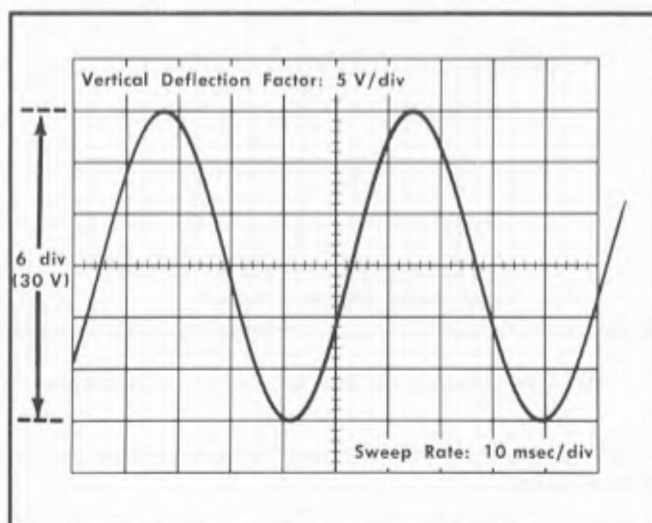

Fig. 5-19. Typical display obtained when audio generator is set for proper output, step 18e.
e. Check that the display is 30 volts in amplitude (6 div; see Fig. 5-19).